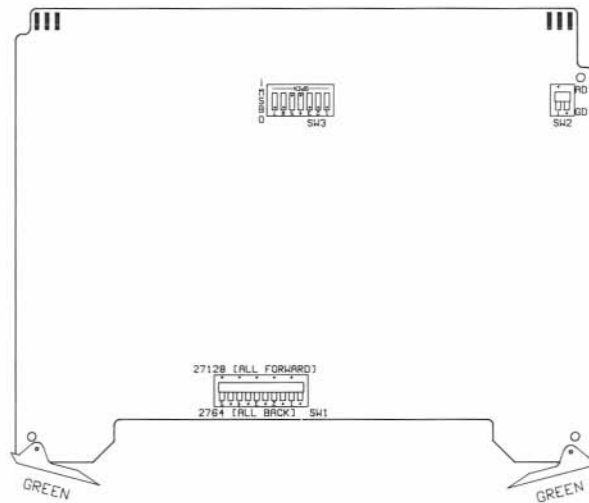

Figure 6-1. EPROM Memory Card Switches
- a. Find the EPROM-type switches, labeled SW1 on the card, by referring to Figure 6-1.
- If you have all 2764-type EPROMs, set the switches to the “all back” position (see Figure 6-1).
- If you have all 27128-type EPROMs, set the switches to the “all forward” position (see Figure 6-1).
- a. Find the EPROM address switches, labeled SW3 on the card, by referring to Figure 6-1.
- If you are using the Pascal Workstation, refer to the “Non-Disc Mass Storage” chapter of the *Pascal Workstation System* manual for recommended EPROM address settings. Also keep in mind that the least significant bit switch (labeled 1 in Figure 6-1) must be set to 0 if 27128-type devices are used.
- If you are using the BASIC Language System, refer to the “EPROM Programming” chapter of the *BASIC Interfacing Techniques* manual for recommended EPROM address settings. Also keep in mind that the least significant bit switch (labeled 1 in Figure 6-1) must be set to 0 if 27128-type devices are used.
- a. Find the EPROM DTACK switch, labeled SW2 on the card, by referring to Figure 6-1.
- b. Set the switch to “AD” as shown in Figure 6-1. Both BASIC and the Pascal Workstation require EPROMs to be addressed in the ROM space, which requires auto DTACK (AD).